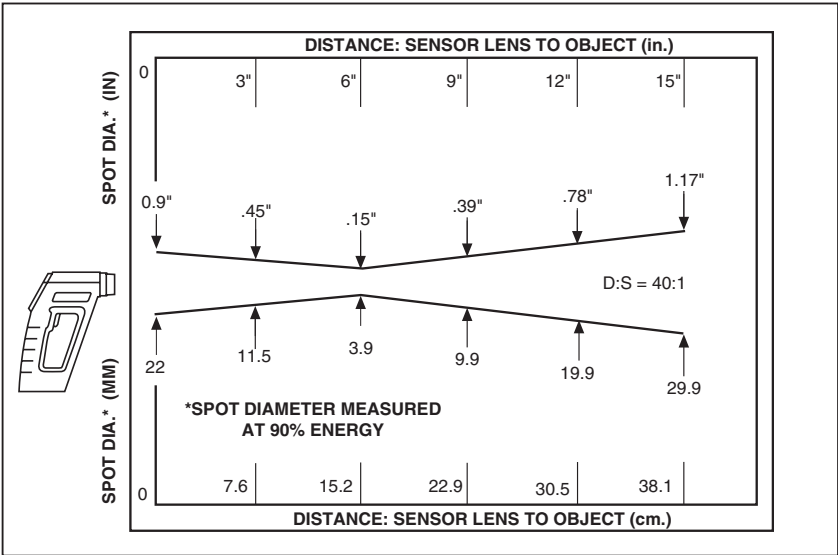

Figure 2-7 Field of View OS53x-CF
4. To record the temperature profile across the surface, connect the IR thermometer to a strip chart recorder. Refer to Figure 2-7 for details. The IR thermometer provides an analog output of 1 mV/degree. (0.5 mV/Deg on OS524)